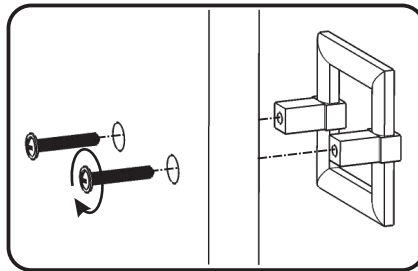

Figure 7
Attach Handles to Doors (F) and (G) with Machine Screws. (See Figure 7)